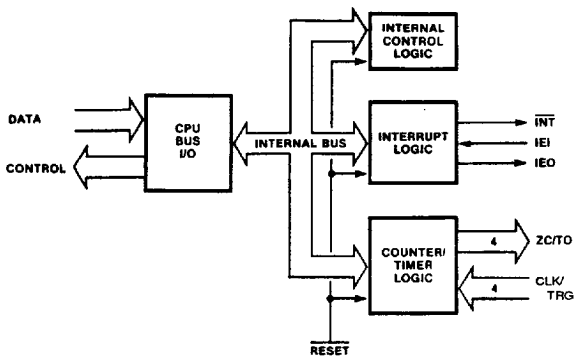

Figure 5: CTC Block Diagram
**Counter/Timer Logic Unit:** This logic unit provides the user with four individual 8-bit counter/timer channels that are compatible with the Z84C30 CTC (see Figure 5). The counter/timers can be programmed by the CPU for a broad range of counting and timing applications. Typical applications include event counting, interrupt and interval timing, and serial baud rate clock generation.